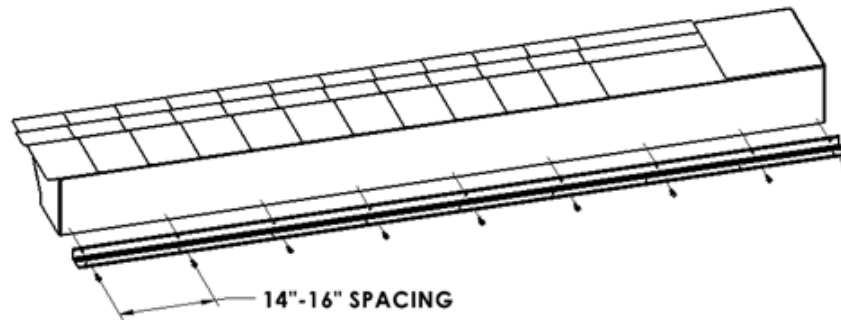
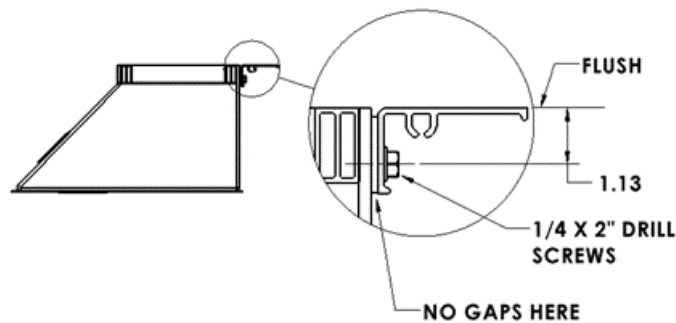
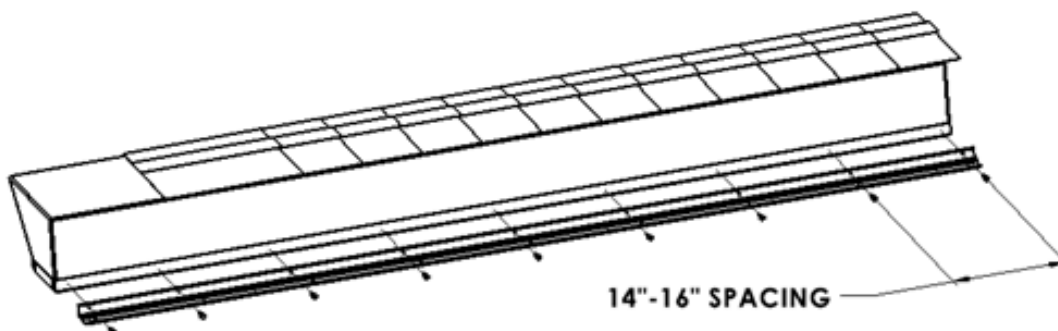
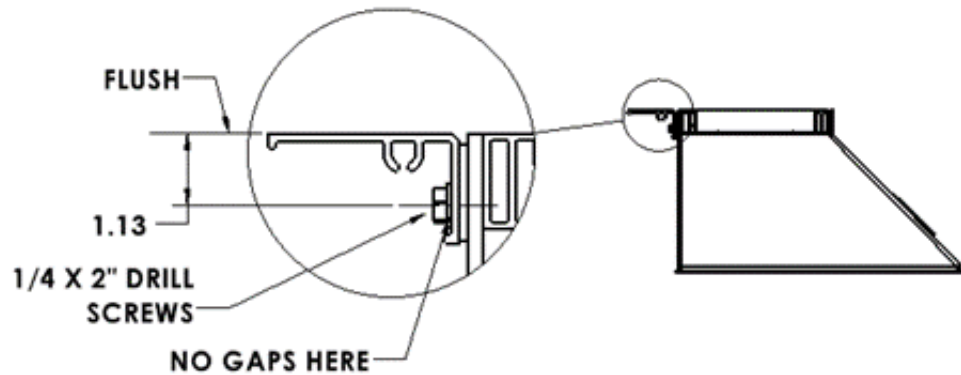

FIGURE 2
FIGURE 3
FIGURE 4
FIGURE 5
- c. Mark the screw locations on the short side lip of the bracket for the fasteners, as shown (Figure 2 & Figure 3). Fasteners need to be spaced 14"-16" apart. Ensure the new screw locations are not in line with the existing screws on the side of the Right-Side Pad (D).
- d. Use the markings above to screw the Long Bracket w/Seal (A) to the Right-Side Pad (D) using the supplied 1/4"x2" Long Drill Screws (I). Make sure the back side of the Long Side Bracket w/Seal and back side of the Right-Side Pad are flush, as shown (Figure 3). Also, ensure that there are no gaps between them.
4. ATTACH LONG BRACKET w/Seal (A) TO LEFT SIDE PAD (C):
- Place the Long Bracket w/Seal (A) next to the Left-Side Pad (C), ensuring that the ends of the bracket are flush with the ends of the Side Pad Backer.
- Mark the screw locations on the short side lip of the bracket for the fasteners, as shown (Figure 4 & Figure 5). Fasteners need to be spaced 14"-16" apart. Ensure the new screw locations are not in line with the existing screws on the side of the Left-Side Pad (C).
- d. Use the markings above to screw the Long Bracket w/Seal (A) to the Left-Side Pad (C) using the supplied 1/4"x2" Long Drill Screws (I). Make sure the back side of the Long Side Bracket w/Seal and back side of the Left-Side Pad are flush, as shown (Figure 5). Also, ensure that there are no gaps between them.